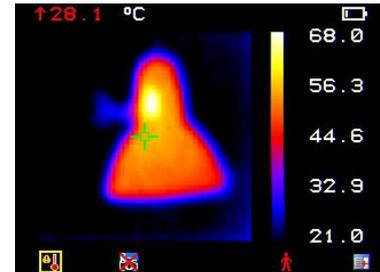

Fig. 4
6. Use Hotkey 1  to toggle through until the high alarm icon  appears (Fig 4).